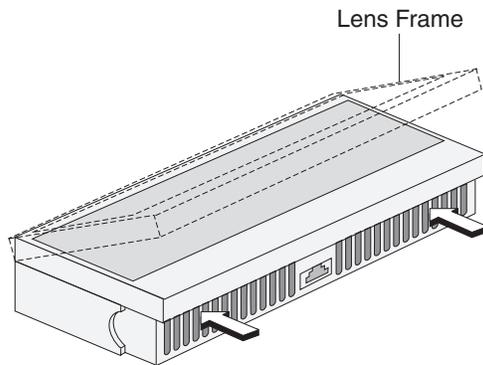

Figure 23. Removing the frame
2. At the bottom of the display, press in on the plastic grille at the locations illustrated by the arrows in Figure 23, and snap the lens frame free from the display. **Do not** spray the cleaning solution into the display.